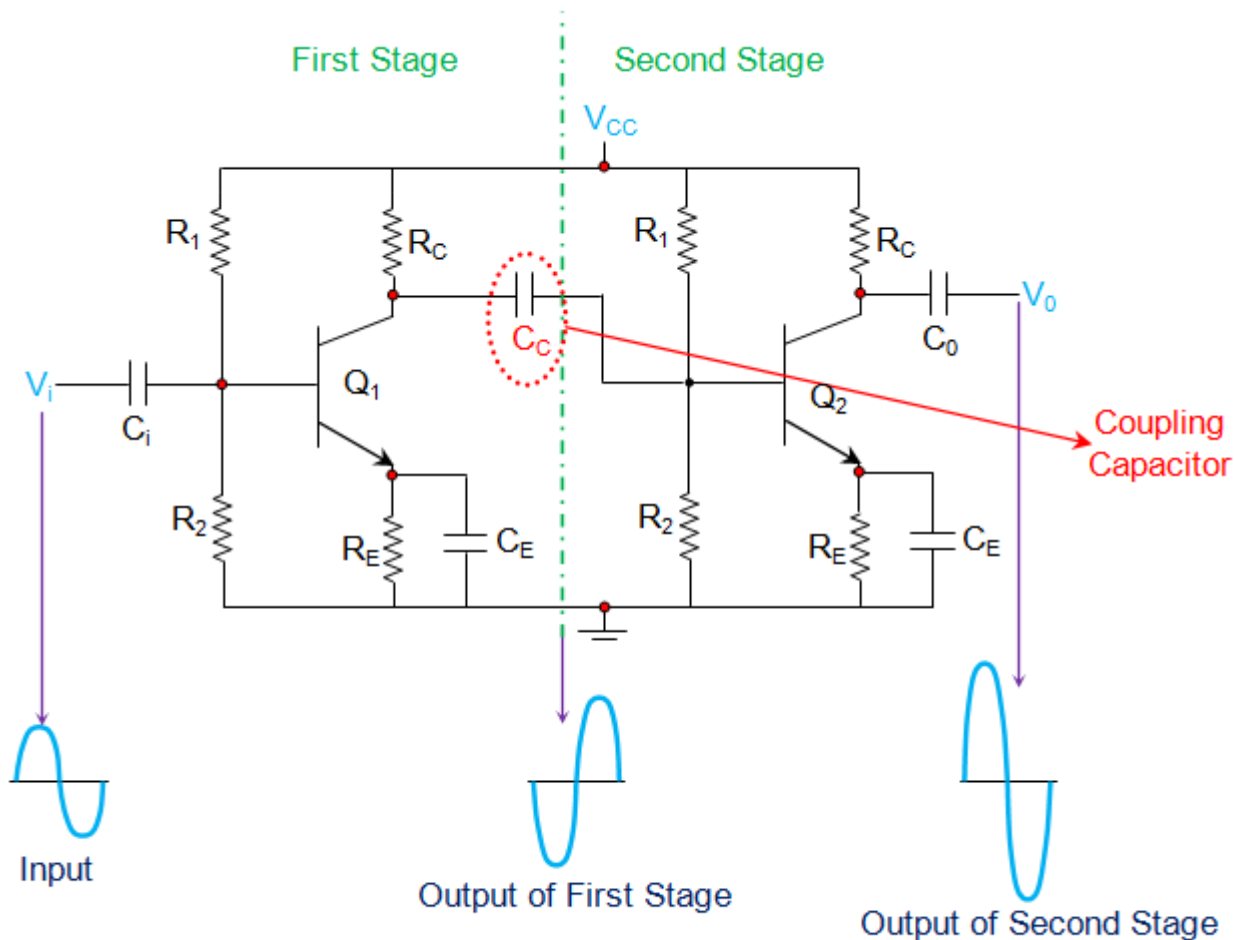

Figure 1 Two-Stage RC Coupled Amplifier
A **Resistance Capacitance (RC) Coupled Amplifier** is basically a multi-stage amplifier circuit extensively used in electronic circuits. Here the individual stages of the amplifier are connected together using a resistor-capacitor combination due to which it bears its name as RC Coupled. Figure 1 shows such a two-stage amplifier whose individual stages are nothing but the common emitter amplifiers. Hence the design of individual stages of the **RC coupled amplifiers** is similar to that in the case of common emitter amplifiers in which the resistors R_1 and R_2 form the biasing network while the emitter resistor R_E form the stabilization network. Here the C_E is also called bypass capacitor which passes only AC while restricting DC, which causes only DC voltage to drop across R_E while the entire AC voltage will be coupled to the next stage. Further, the coupling capacitor C_C also increases the stability of the network as it blocks the DC while offers a low resistance path to the AC signals, thereby preventing the DC bias conditions of one stage affecting the other. In addition, in this circuit, the voltage drop across the collector-emitter terminal is chosen to be 50% of the supply voltage V_{CC} in order to ensure appropriate biasing point.
Further it is to be noted that the cascading of individual amplifier stages increases the gain of the overall circuit as the net gain will be the product of the gain offered by the individual stages. However in real scenario, the net gain will be slightly less than this, due to the loading effect. In addition, it is important to note that by following the pattern exhibited by Figure 1, one can cascade any number of common emitter amplifiers but by keeping in mind that when the number of stages are even, the output will be in-phase with the input while if the number of stages are odd, then the output and the input will be out-of-phase.